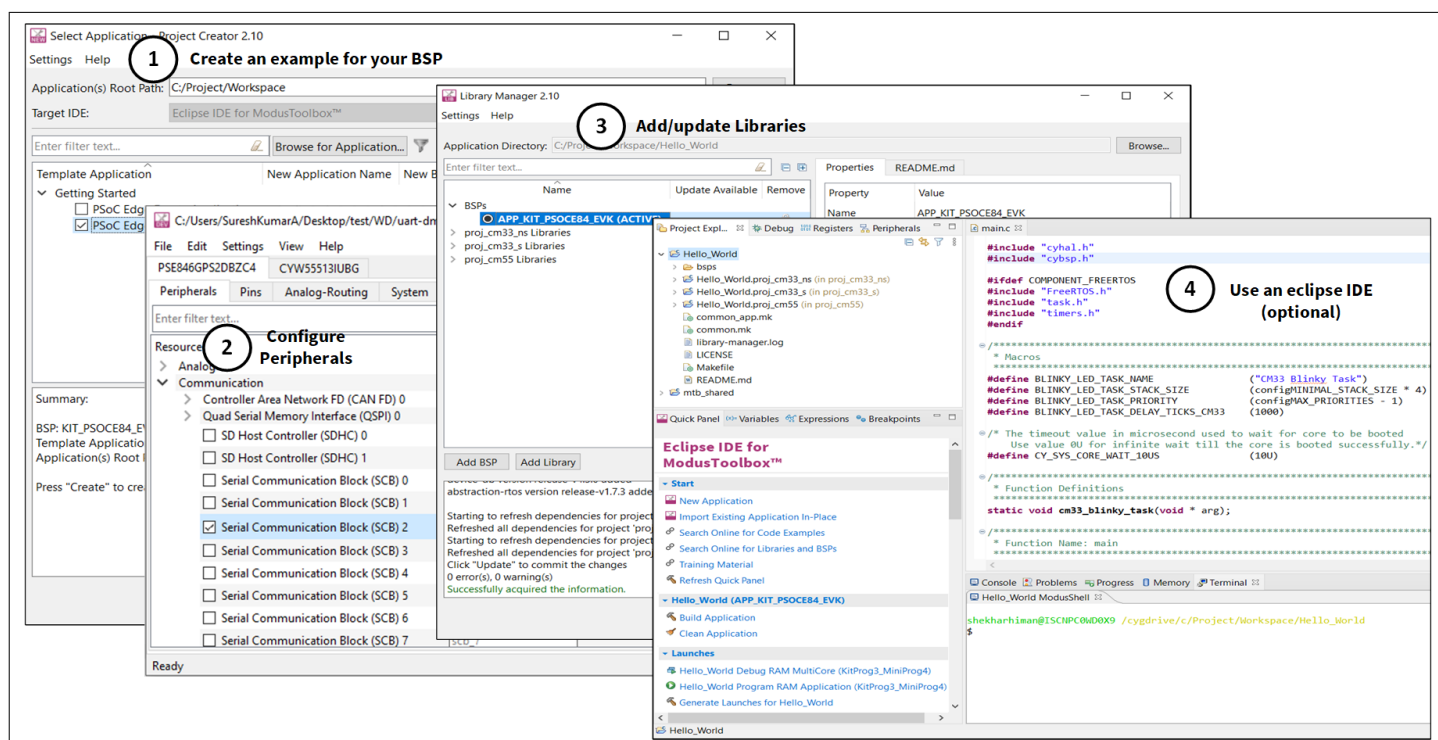

Figure 2 ModusToolbox™ Software Tools
ModusToolbox™ software is IDE-neutral and easily adaptable to your workflow and preferred development environment. It supports Windows, Linux, MacOS, IAR, Keil, and Visual Studio Code. As Figure 2 shows, it includes (1) a project creator, (2) peripheral and library configurators, (3) a library manager, and (4) an optional Eclipse IDE for ModusToolbox™. For information on using Infineon tools, refer to the documentation delivered with ModusToolbox™ software, and AN235935 – Getting started with PSOC™ Edge E84 on ModusToolbox™ software.